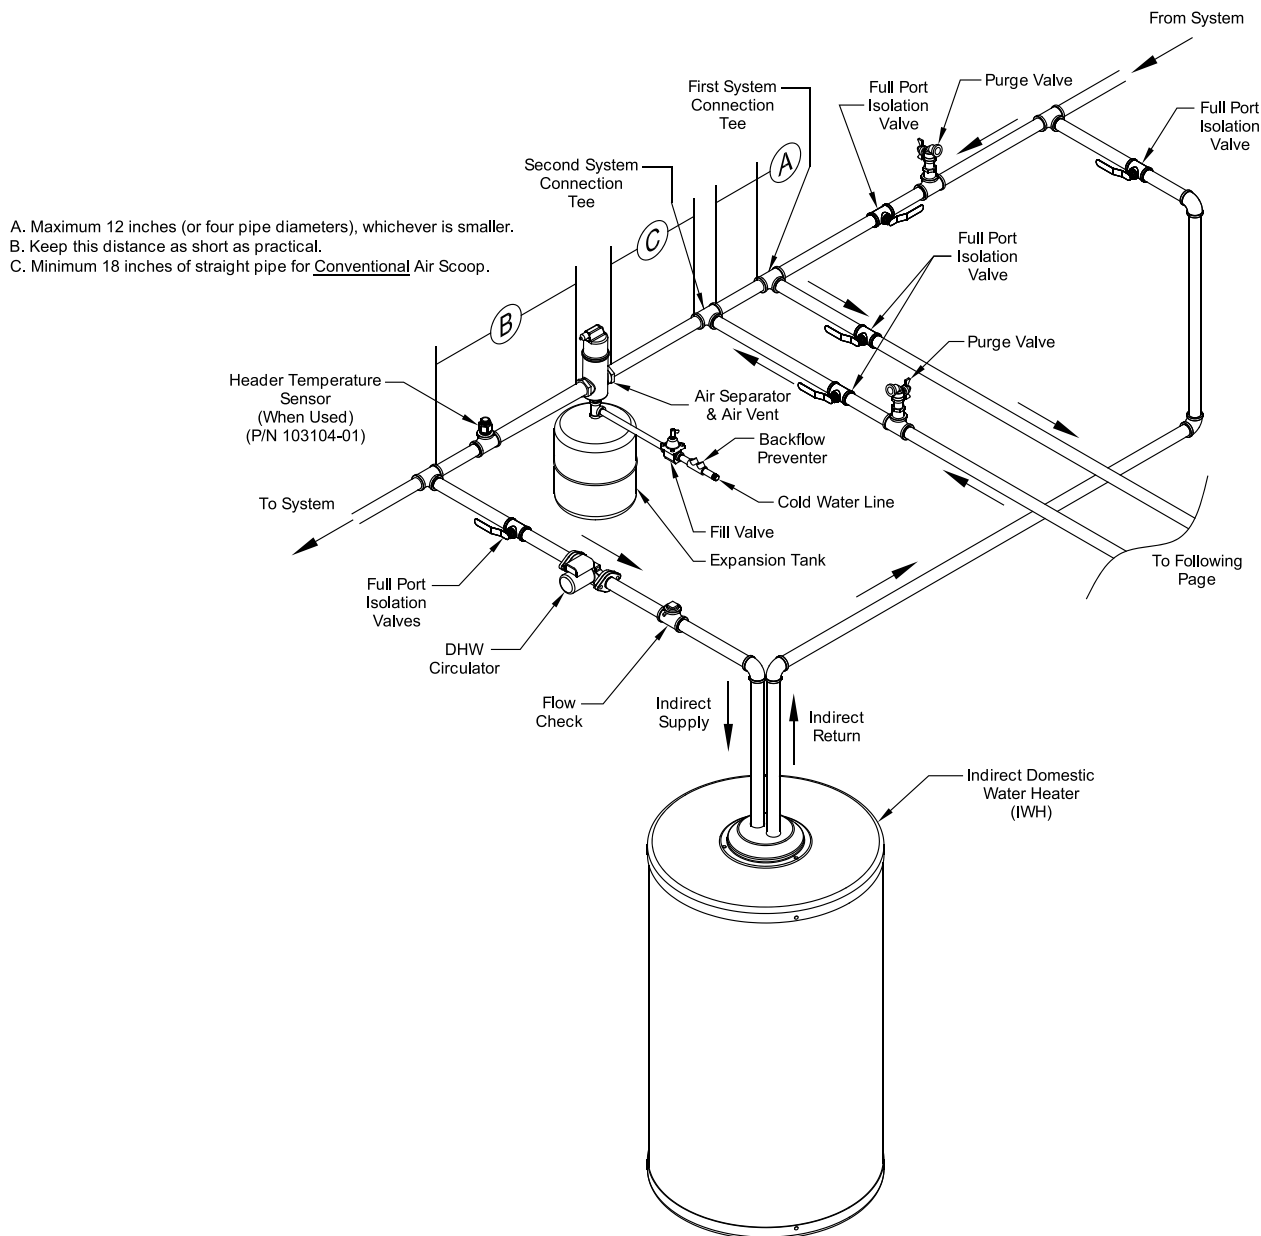

Figure 6-8: Multiple Boiler Water Piping w/Domestic Hot Water Heater (Page 1 of 2)
- E. Multiple Boiler Installation Water Piping – (See Table 6-7 and Figures 6-8 and 6-9)
- 2. For installations where indirect domestic hot water heater is combined with space heating, pipe the indirect water heater zone off of the primary loop as shown in Figure 6-8.